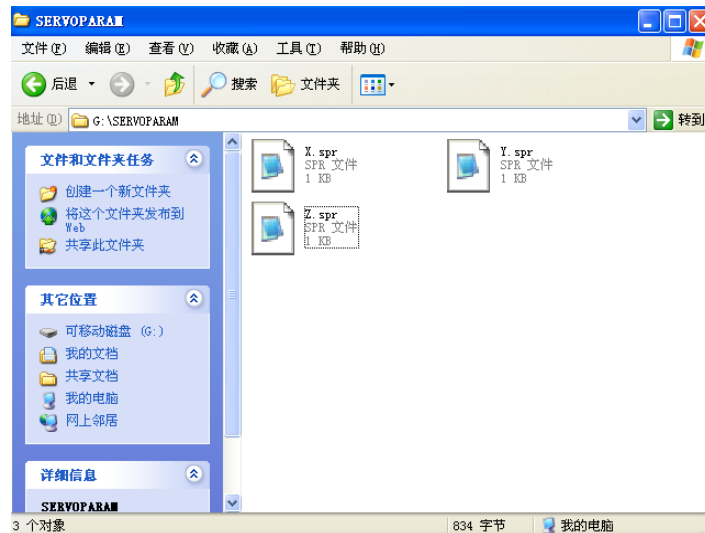

Fig.9-6
5. The folder "SERVOPARAM" can be set up in the U disk after the operations are performed by the step 3, the parameter file with backup before will reserved at this folder. Refer to the Fig 9-6.
1. Ensure that the folder “SERVOPARAM” is already set up in the U disk, and the servo by backup holds at this folder. Refer to the above figure 9-6.